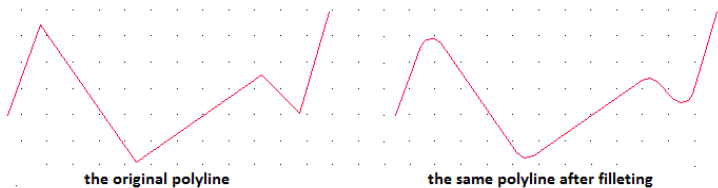

Fig. 130 – an example of using the Fillet function for a polyline
- An example result is presented on the illustration below (Fig. 130).